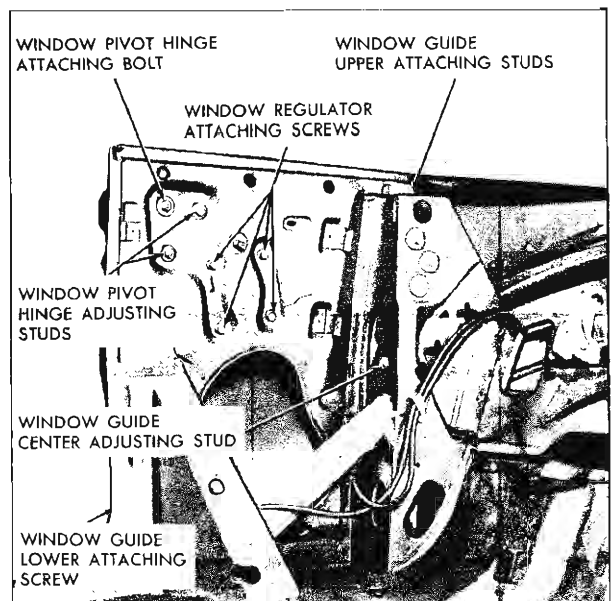

Fig. 13-6 Rear Quarter Hardware "67" Style
2. Remove window pivot bolt (Fig. 13-6).
To adjust the forward travel and up travel of the rear quarter window, loosen the window guide upper attaching stud nuts (Fig. 13-6). Adjust upper stop to
a. "Up or down" or "fore or aft" adjustment: Loosen pivot bolt and both adjusting stud nuts (Fig. 13-6). Position window, as required, and tighten pivot bolt and stud nuts.
b. Top of window "in or out" adjustment: Loosen lower adjusting stud nut and slightly loosen rear stud nut (Fig. 13-6). Adjust lower stud "in or out", as required, then tighten both stud nuts.
c. Rear of window "in or out" adjustment: Loosen pivot hinge rear adjusting stud nut and slightly loosen lower adjusting stud nut (Fig. 13-6). Loosen window guide upper and center attaching screws as required, then tighten both stud nuts. Adjust window guide for proper alignment with window and tighten guide upper and center attaching screws.
3. Remove window regulator attaching screws (Fig. 13-6). Disengage roller on regulator lift arm from window lower sash channel cam and remove regulator through access hole.
2. Remove window guide upper, center, and lower attaching stud nuts and screws (Fig. 13-6).